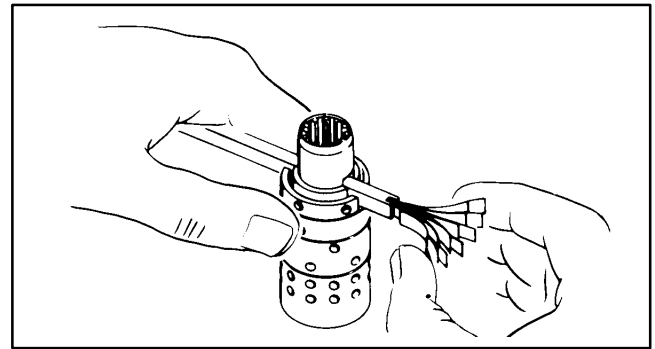

Figure 38
6. Bring spring slots of both parts in line and stand parts on end of bench. Insert spring installation tool through spring slots of both parts. Tool is available from an Eaton hydraulics supplier as Eaton part no. 600057. Position 3 pairs of centering springs (or 2 sets of 3 each) on bench so that extended edge is down and arched center section is together. In this position, insert one end of entire spring set into spring installation tool, as shown in Fig. 38, with spring notches facing sleeve.